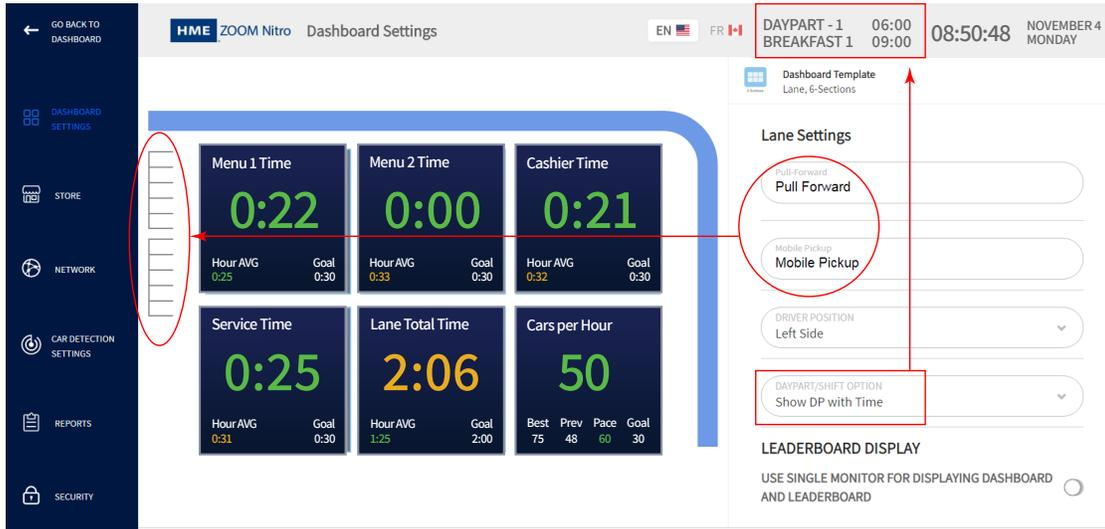

Fig. 3.4
DAYPART/SHIFT OPTION Show DP with Time	DAYPART/SHIFT OPTION: Different combinations of Daypart (DP), Shift, and Time can be selected here to be displayed at the top of your Dashboard screen (see Fig. 3.4).